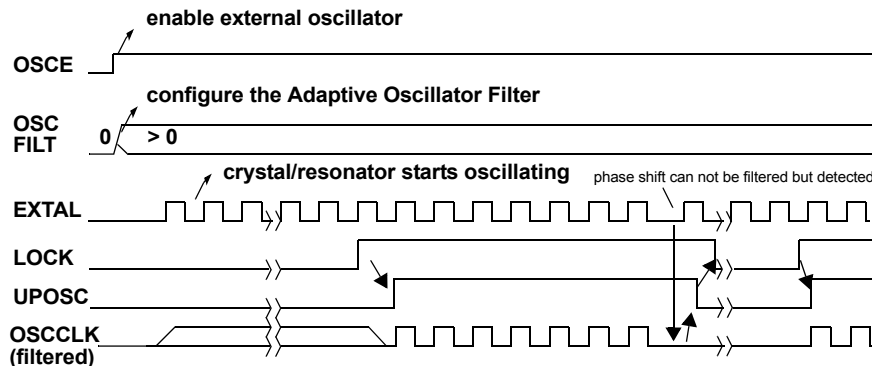

Figure 100. Critical Noise Detected by the Adaptive Oscillator Filter
2. Detect severe noise disturbance on external oscillator clock which can not be filtered and indicate the critical situation to the software by clearing the UPOSC and LOCK status bit and setting the OSCIF and LOCKIF flag. An example for the detection of critical noise is illustrated in Figure 100